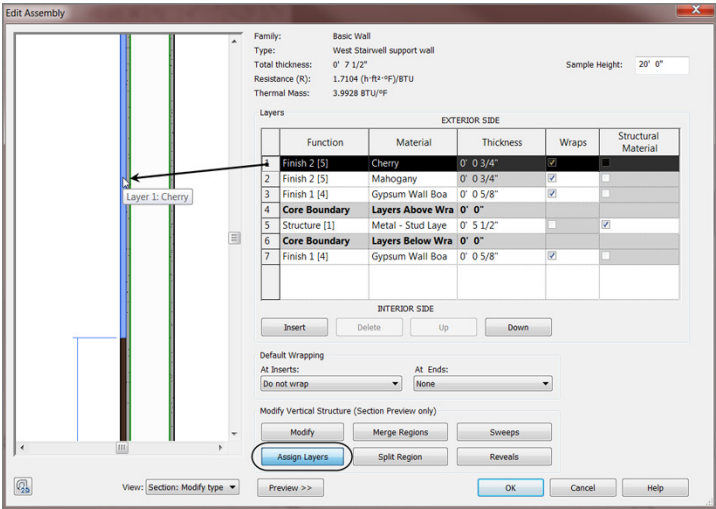

FIGURE 16.7: Assigning the cherry layer to the upper portion of the wall
- 1. Pick the Layer 1 row (Cherry), as shown in Figure 16.7.
2. Click the Assign Layers button (see Figure 16.7).
3. Move your cursor over the upper region of the plywood layer, and pick. Cherry is assigned to the upper portion of the wall, and the thicknesses are set to 3/4" (19mm) (again, see Figure 16.7).